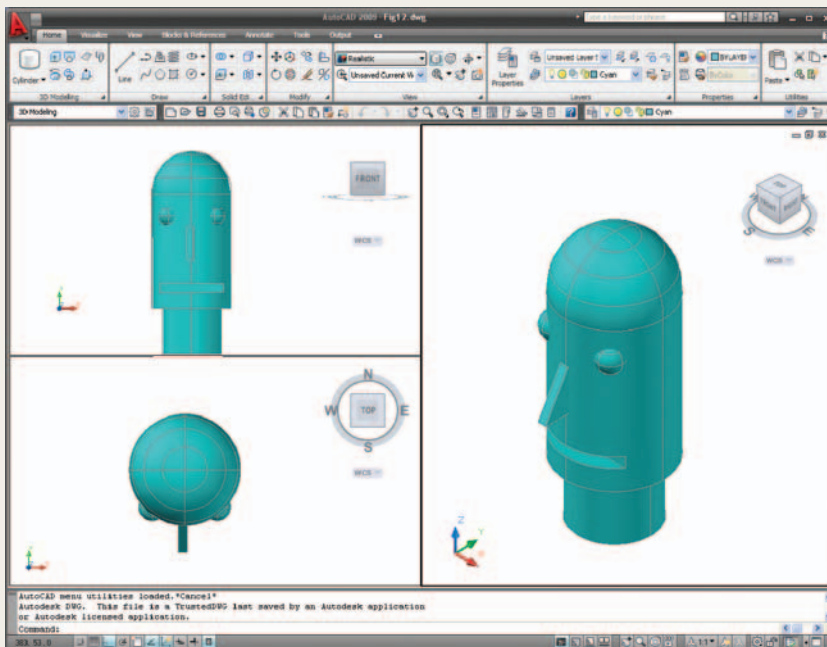

Fig. 13.12 Exercise 1
1. Using the **Cylinder**, **Box**, **Sphere**, **Wedge** and **Fillet** tools, together with the **Union** and **Subtract** tools and working to any sizes thought suitable, construct the 'head' as shown in the **Three: Right** viewport as shown in Fig. 13.12.